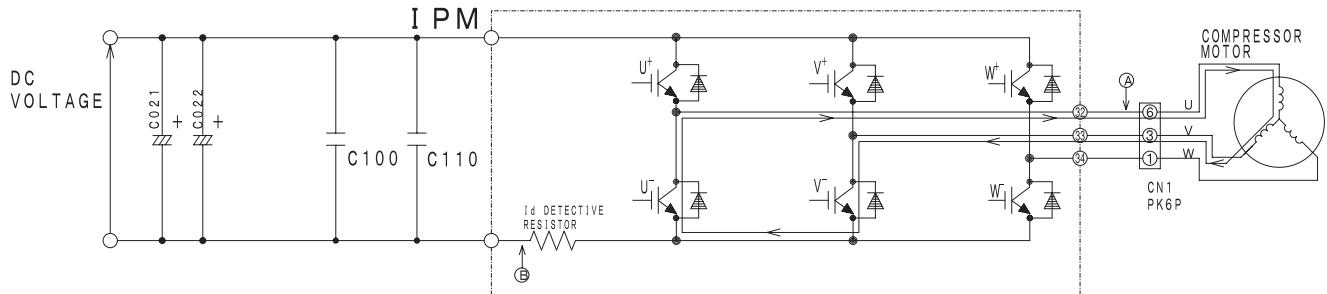

Fig. 3-4 Power module circuit (U+ is OFF, V- is ON)
At point ⑥: U+ is chopped (OFF), V- is ON (circuit in Fig. 3-4)
- (2) When U+ transistor is OFF: (by inductance of motor coil) U coil → V coil → V-transistor → U- diode → Point A (Fig. 3-4)